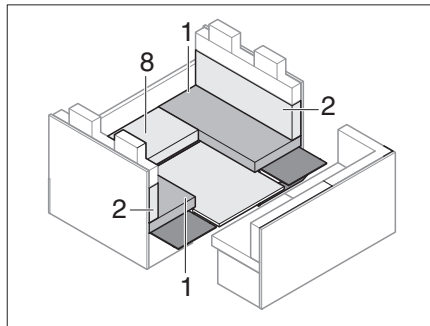

Fig. 192 During conversion
- Remove the seat cushion (Fig. 192,8) and the base.